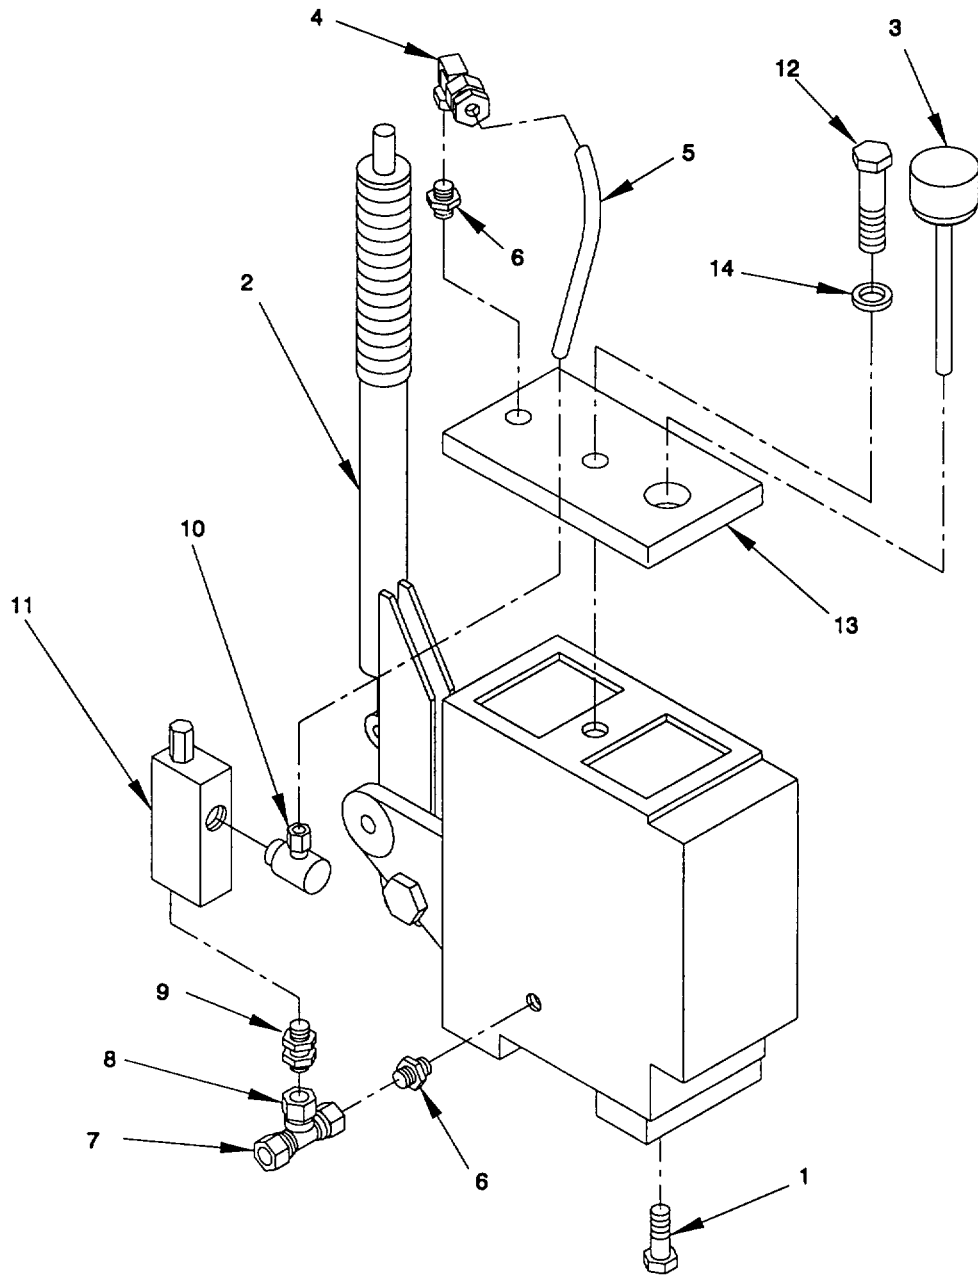

Figure 2-24. Hydro-Hand Pump, Remove/Repair/Install
a. Remove. (figure 2-24)
- (1) Loosen and remove mounting bolts (1) to gather hand pump from pump-jet system and compartment.
- (2) Disconnect hand pump handle (2).
- (3) Remove and clean air filter (3).
- (4) Loosen and remove straight male stud fitting (4) and hydro pipe (5).
- (5) Loosen and remove straight male stud fitting (6) with adjustable elbow fitting (7), adjustable barrel tee fitting (8), straight stud standpipe adaptor (9), banjo fitting (10), and relief valve (11). Disassemble parts.
- (6) Remove hexagon screw (12) and cover (13). Replace sealing ring (14).
- (2) Inspect hydro-pipe for holes or kinking.
- (3) Inspect piston for scoring or marring of surface.
- (4) Clean out casting, air filter, and hydro-pipe with solvent.
- (5) Clean off old grease and lubricate moving parts.
c. Repair. (figure 2-24)
d. Install. (figure 2-24)
- (1) Replace sealing ring (14). Install cover (13) and hexagon screw (12).
- (2) Assemble and install straight male stud fitting (6) with adjustable elbow fitting (7), adjustable barrel tee fitting (8), straight stud standpipe adaptor (9), banjo fitting (10), and relief valve (11).
- (3) Install hydro pipe (5) onto straight male stud fitting (4) and tighten.
- (4) Install air filter (3).
- (5) Connect hand pump (2) handle.
- (6) Install and tighten mounting bolts (1) to secure hand pump to pump-jet system.